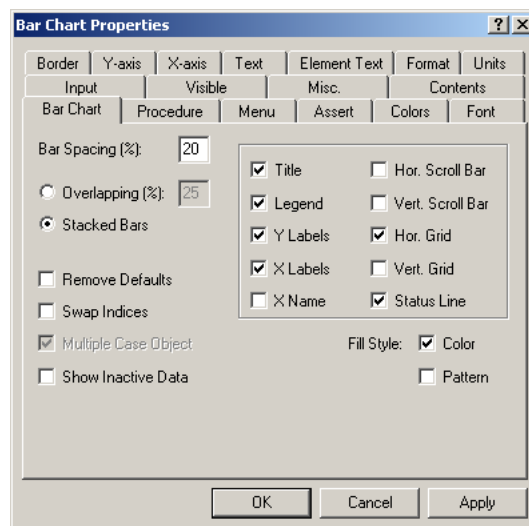

Figure 6.6: Bar chart property dialog box
- ▶ select the ‘bar chart’ tab in the properties dialog box as illustrated in Figure 6.6),